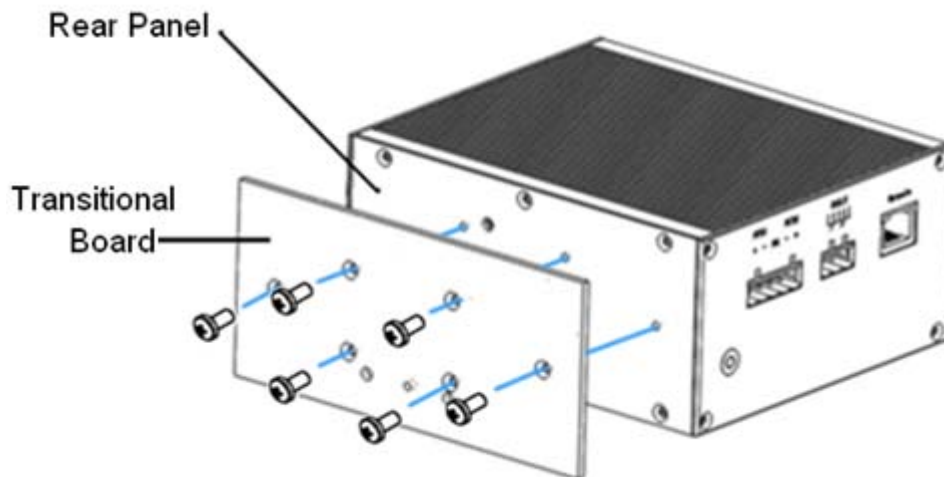

Figure 8 Mounting the Transitional Board
Step 1: Remove the DIN-Rail connecting seat from the rear panel; Place the device horizontally, and attach the transitional board to the rear panel of the device; then fix the transitional board with six screws (M3×6), as shown in Figure 8.